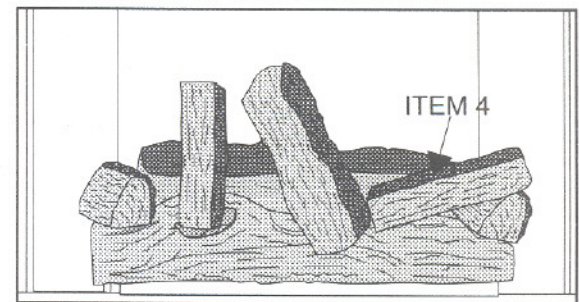

Figure 49
8. See Figure 49. The last small straight log (Item 4) is installed next. Position this log with the "bark" towards the back of the firebox. The left end of the log is placed in the remaining indentation of the Front Log and the right end of the log rests on top of the small straight log place previously.